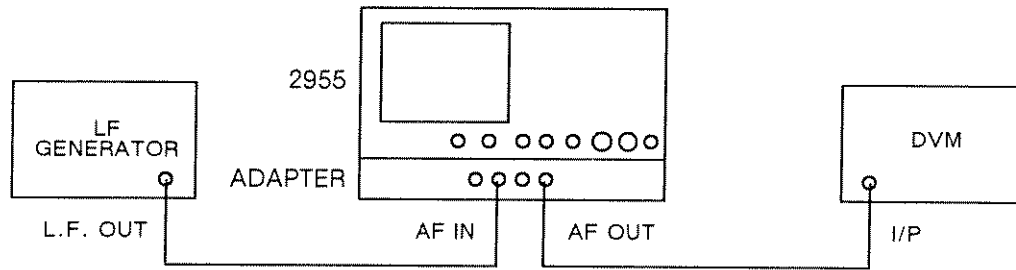

Fig. 5-5 Test equipment connections for psophometric filter test
- (1) Connect the LF synthesizer output socket to the Adapter's AF INPUT socket and connect the Adapter's AF OUT socket to the DVM input socket as shown in Fig. 5-5.